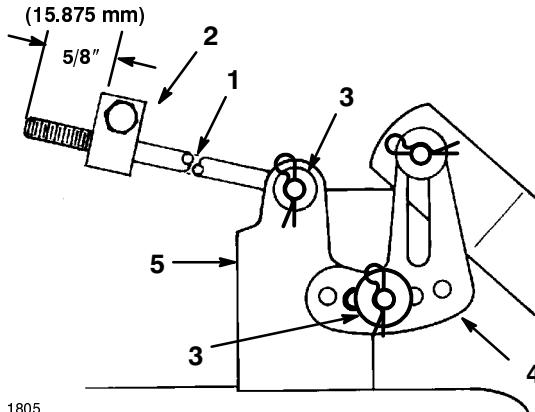

**Figure 46**
7. Remove the lift assist spring between the mower right side lift bracket and the retaining bolt (Fig. 46) Use the spring tool provided with the machine.